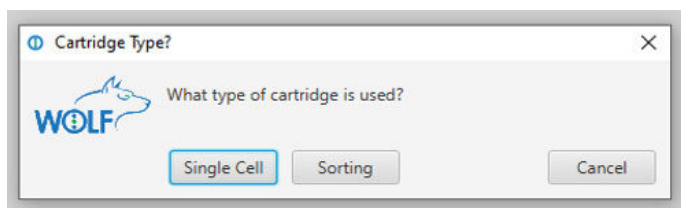

Figure 12. Cartridge selection.
4. Select the type of cartridge that will be used for the experiment (Fig. 12).